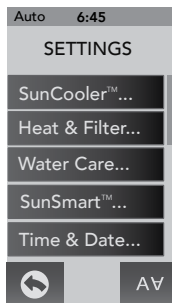

Figure 12.8a
From the Settings Menu, tap  to enter the programming options, Figures 12.8a and 12.8b. Make sure that you have downloaded the Wi-Fi App for this setup.
1. From the “Settings” menu, tap **SunSmart™...** (Figure 12.8a) to enter the menu.